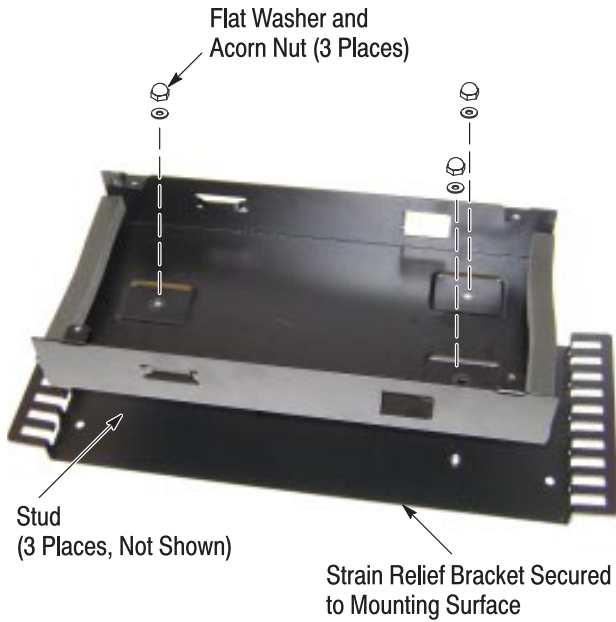

Figure 2
If using the strain relief bracket (refer to Figure 2):
- Added Figures 2 and 3